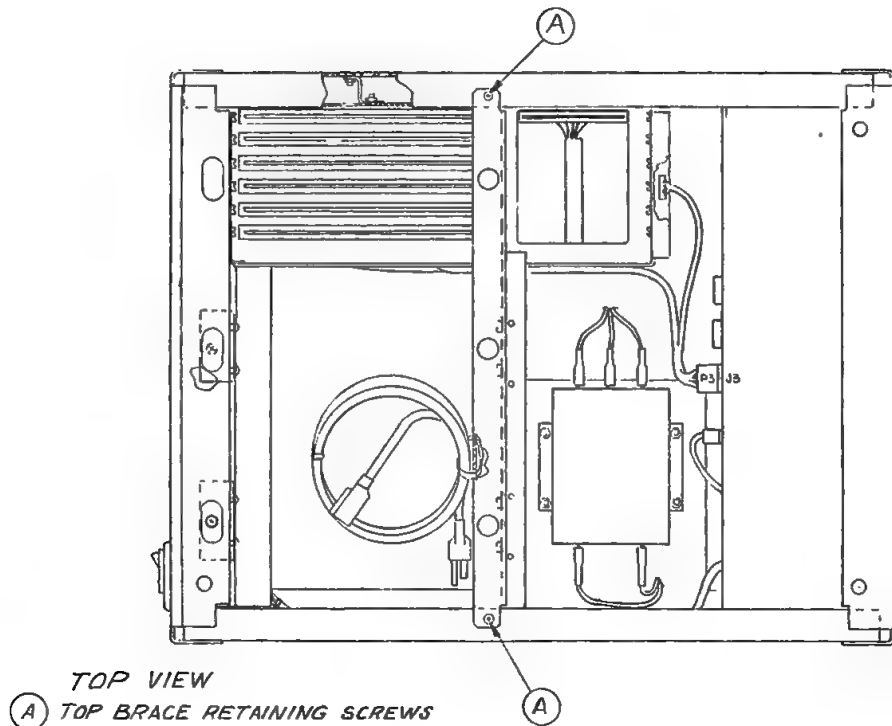

Figure 2-9. Chassis Top View
- Remove the center top brace by removing the screws that secure the brace to the chassis and any peripheral devices installed, see Figure 2-9.